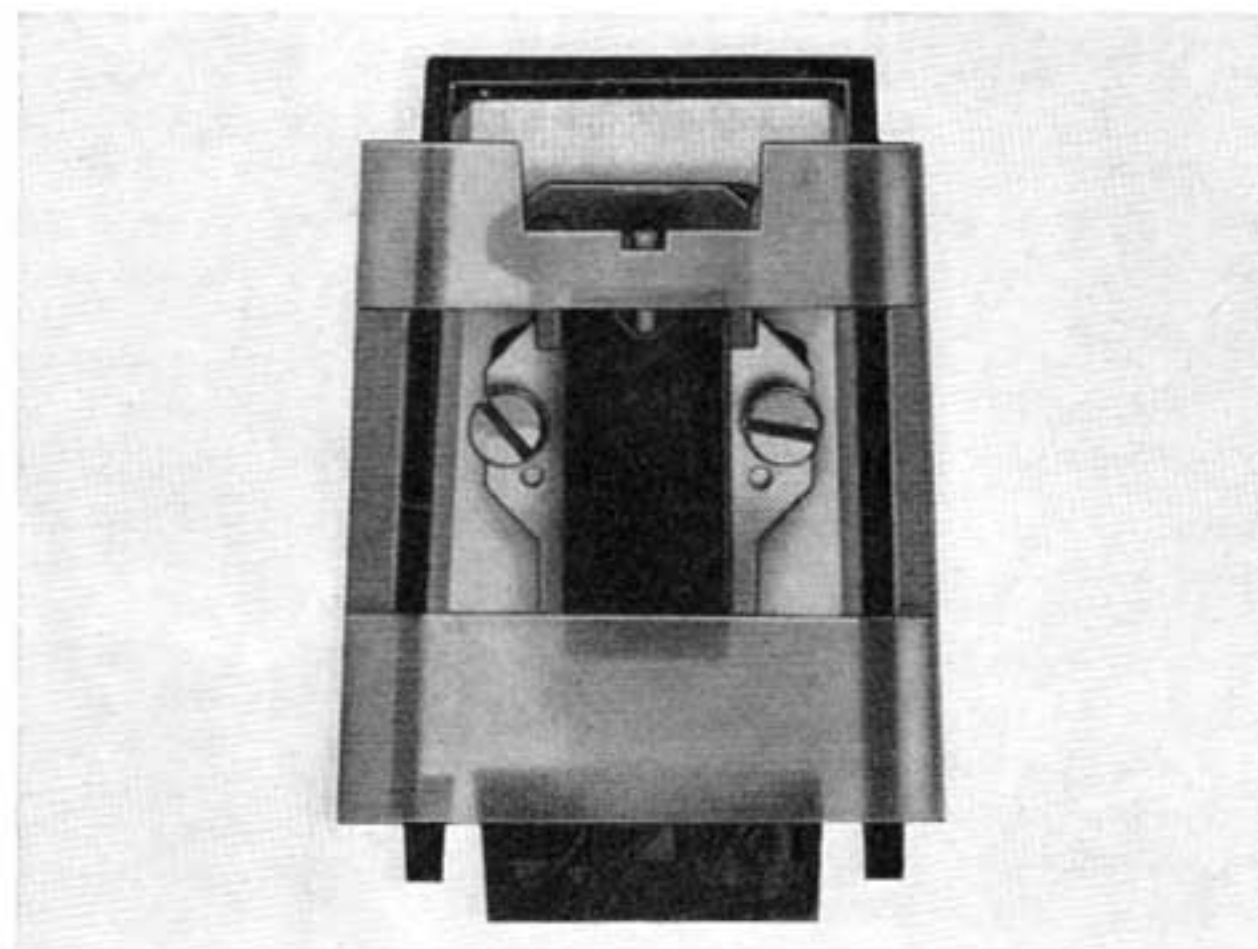

Fig. 20
3. Das Tonabnehmersystem ist richtig montiert, wenn die Aussparung der Montagelehre den Abtaststift des Tonabnehmersystems umschließt (Fig. 20).
2. From the hardware supplied with either your Dual or with your cartridge, select a pair of spacers and screws that will provide a maximum of  $1\frac{3}{16}$ " (21 mm) from tip of stylus to top of holder. The special gauge supplied with your Dual, when snapped on to the holder, will give you this maximum depth, plus the correct stylus overhang positions for minimum tracking error. (When the stylus is correctly spaced and positioned, it will be centered in the notch as shown in Fig. 20. Be sure that the cartridge is positioned parallel to longitudinal axis of cartridge holder.) Remove the gauge when actually mounting the cartridge, then snap it on again — carefully — for a final check before tightening the screws.
3. La cellule est montée correctement lorsque la pointe de lecture est entourée du regard pratiqué à cet effet dans le gabarit de montage (figure 20).
3. El montaje será correcto cuando la aguja se encuentre en la abertura del calibre (fig. 20).